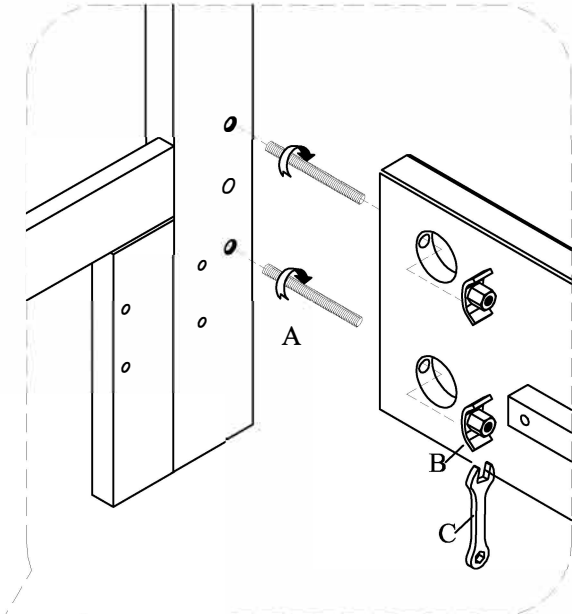

FIGURE 1
- STEP 1. Screw the Threaded Bolt (A) into the two threaded holes that are at the bottom of the posts of Bolt the Headboard and the Footboard. Slide the Bed Rail onto the two Bolts (A) on one of the bed posts until the Bolts (A) are visible through the holes on the inside of the Bed Rail. See Figure 1.
- STEP 2. Slide a Curved Washer Nut (B) onto the Bolts (A) through the holes in the Bed rail. Tighten all the Curved Washer Nut (B), using the Spanner Wrench (C). See Figure 1.